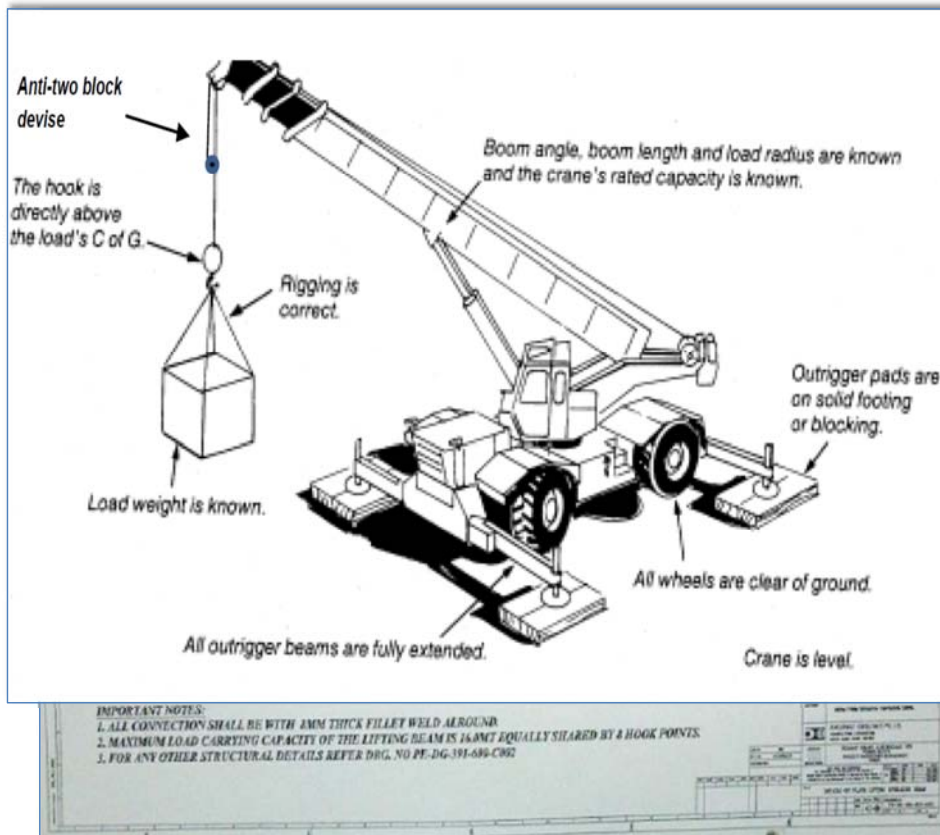

Fig. 13.2.4.3 Typical Plate Lifting Spreader Beam Configuration for 7.5 MT and 15 MT Loads
- j.k. Only BHEL Approved Plate Lifting Spreader Beam configuration shall be used (Sample in Fig. 13.2.4.2)